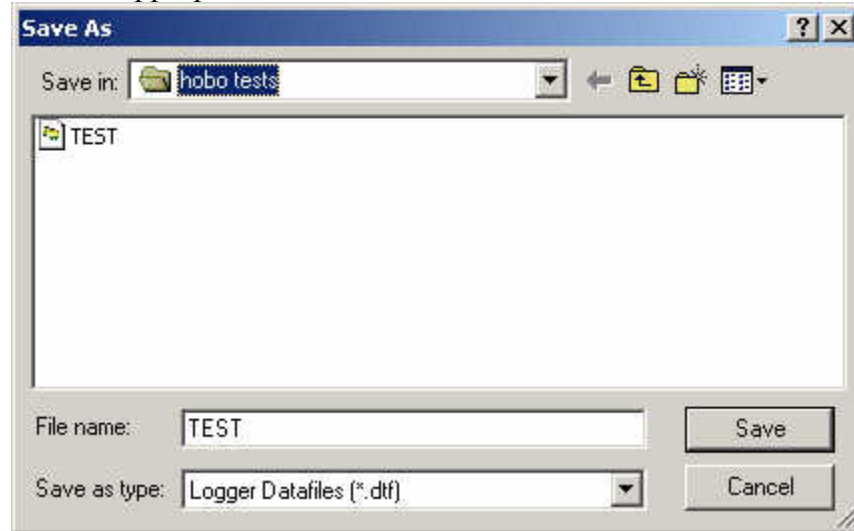

Fig. 5
14. A screen will appear, Fig. 5, asking where to save the data. Give it a name and save it to an appropriate location.